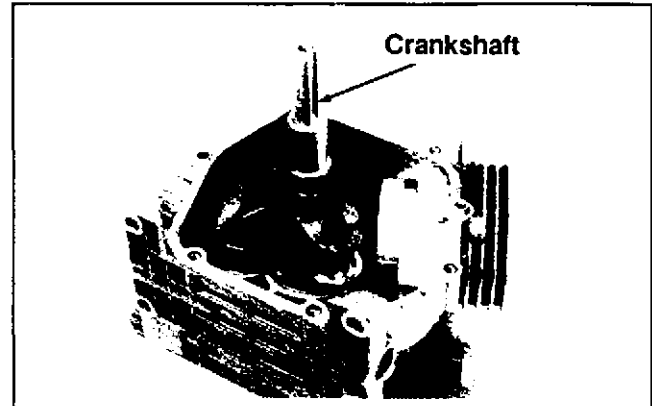

Figure 9-33. Removing Crankshaft.
- On models with ball bearings, press the crankshaft from the crankcase. See Figure 9-33. Note: The crankshaft can be lifted out on those (CH6 models) using sleeve bearing instead of ball bearings.